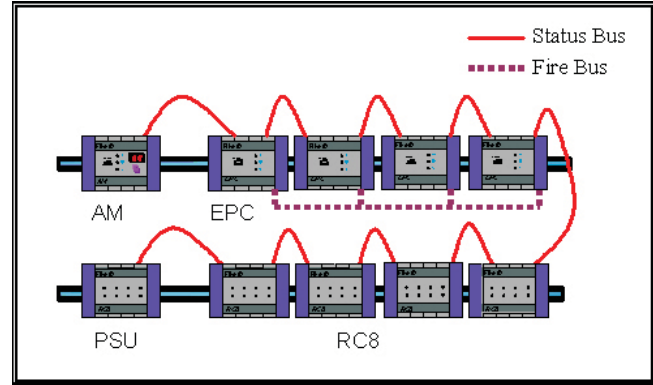

Figure 1: Single Loop Schematic Representation of the Bus Network
The Annunciator Module (AM) is a local call-in point for all connected devices of a bus. In figure 1, a full setup is shown with the maximum number of each type of component that can compose a 'Single Loop.' In practical terms, a loop collects explosion protection controls of a larger protected area containing two or more connected vessels that are being protected.